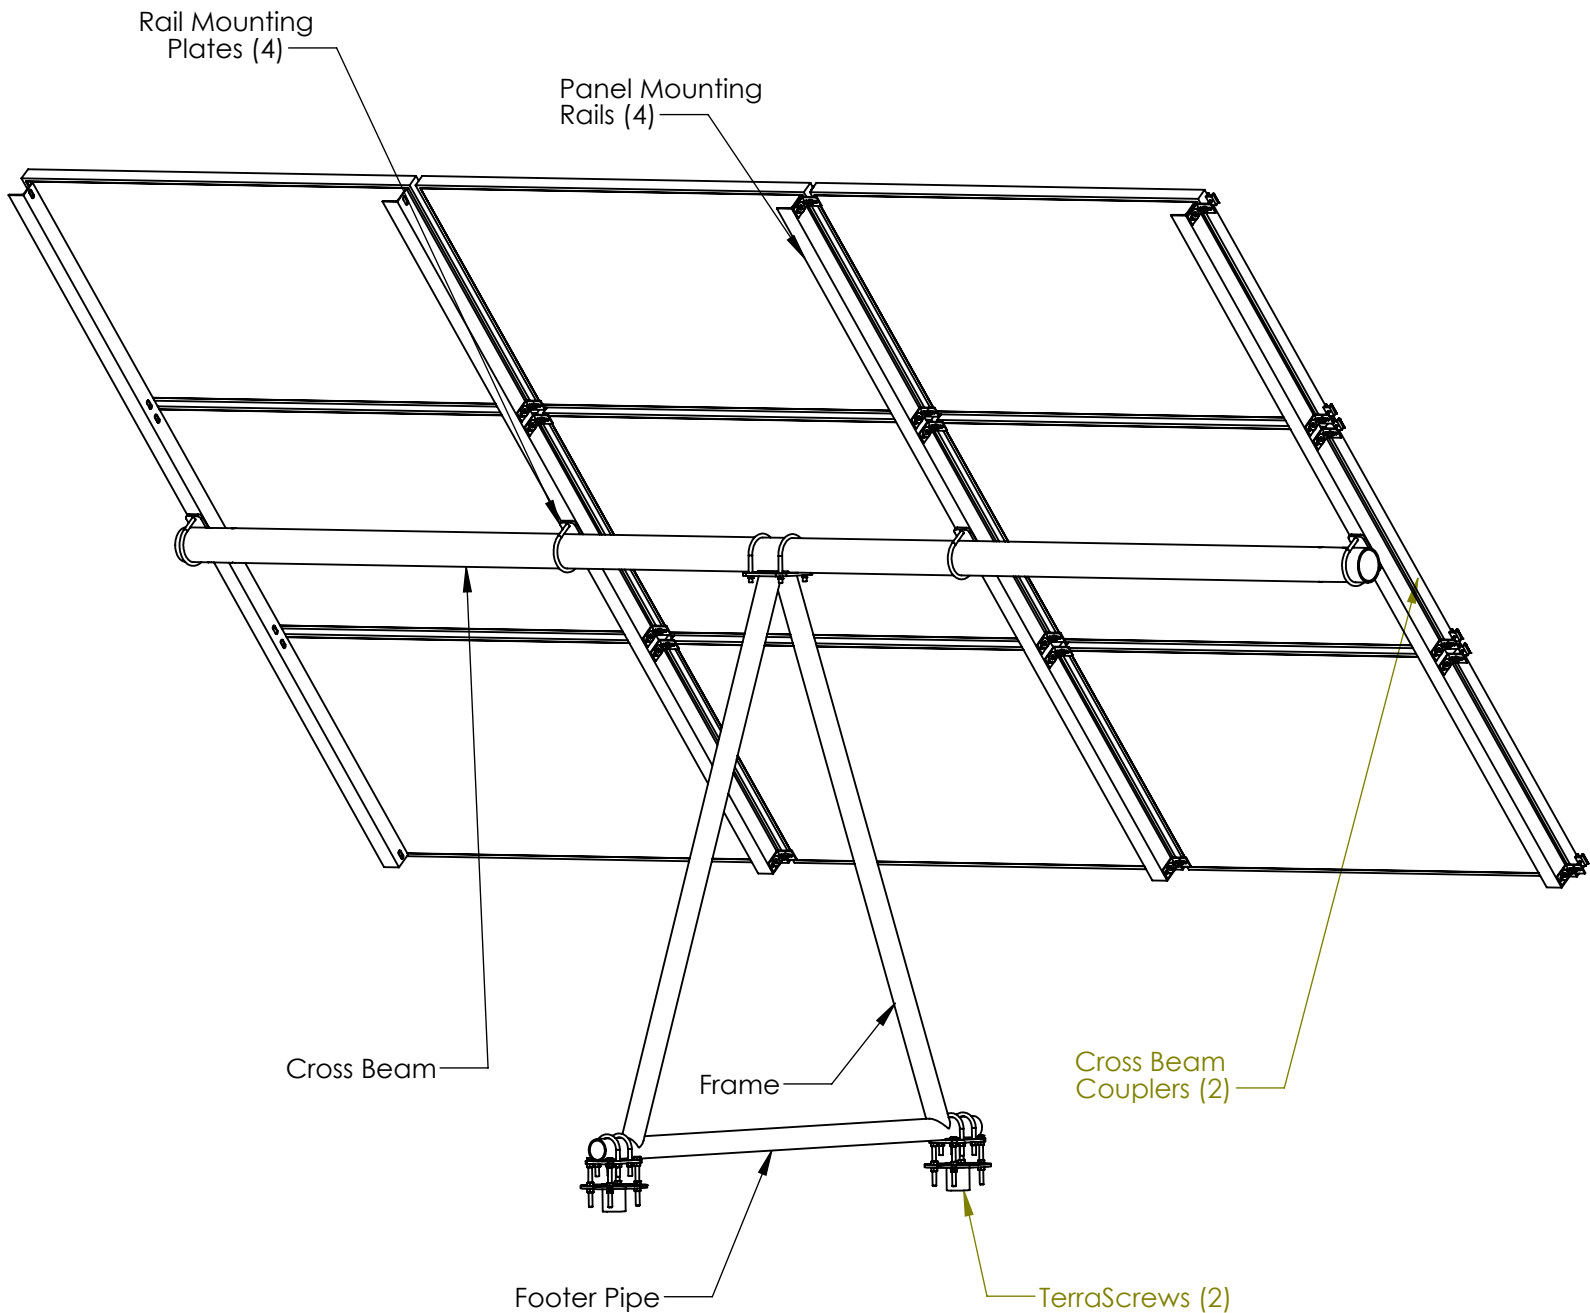

Figure 3
3. Install Cross Beam onto the Vertical Post (Fig.3)